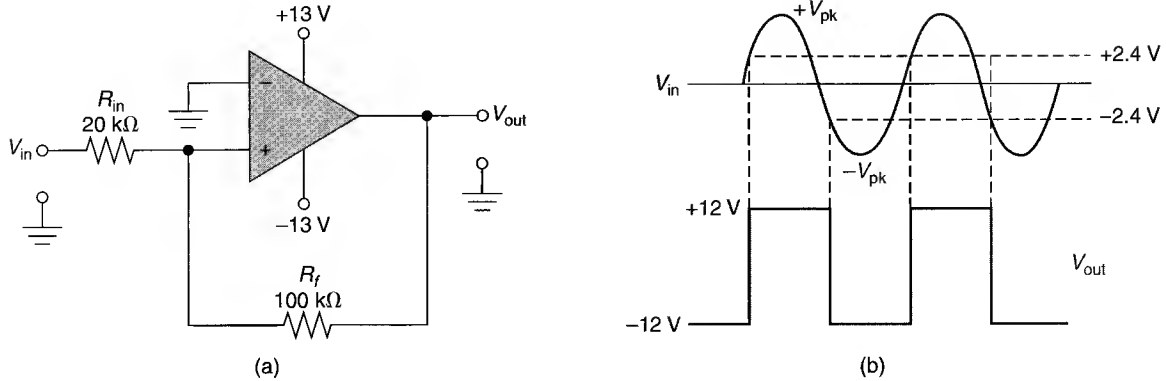
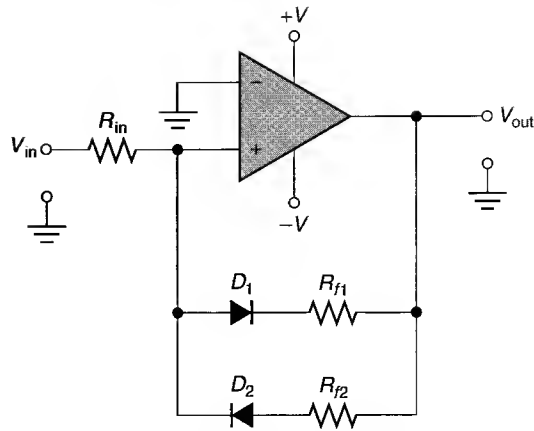

FIGURE 19.24
FIGURE 19.25 A noninverting Schmitt trigger designed for unequal UTP and LTP values.
Determine the UTP and LTP values for the circuit shown in Figure 19.24. Also, verify that the output changes states when the UTP and LTP values are exceeded.
A noninverting Schmitt trigger like the one in Figure 19.24 has values of $R_f = 33 \text{ k}\Omega$ and $R_{in} = 11 \text{ k}\Omega$. Determine the UTP and LTP values for the circuit.
The noninverting Schmitt trigger in Figure 19.24 is restricted because the magnitudes of the UTP and the LTP must be equal. For example, the UTP is +2.4 V, so the LTP must be -2.4 V. If the UTP were 4 V, the LTP would have to be -4 V. However, the noninverting Schmitt trigger can be modified so that the magnitudes of the UTP and the LTP are not equal. A circuit that contains this modification is shown in Figure 19.25.
6. Explain the operation of the noninverting Schmitt trigger in Figure 19.25.